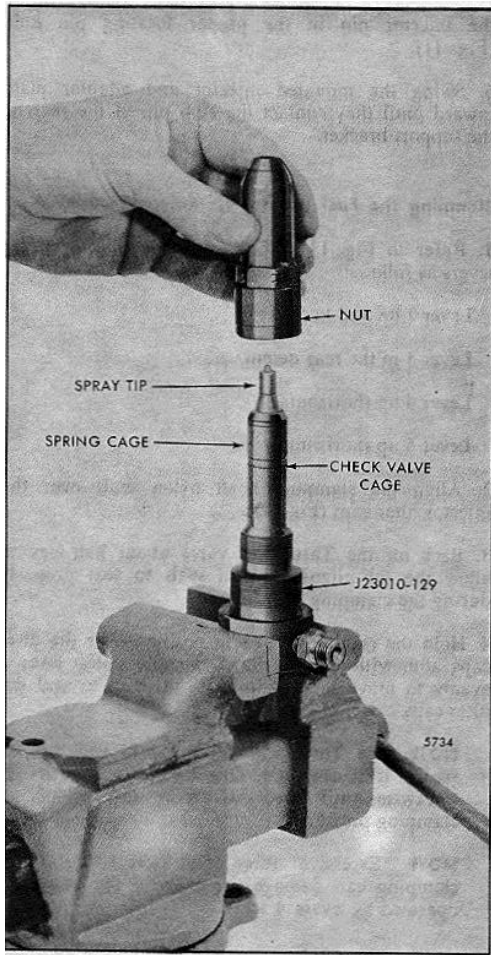

FIG. 14 Assembling Injector Valve Parts on Tip Tester Adaptor J 23010-129
2. Carefully pilot the injector nut over the spray tip and valve parts and thread it onto the adaptor (Fig. 14).